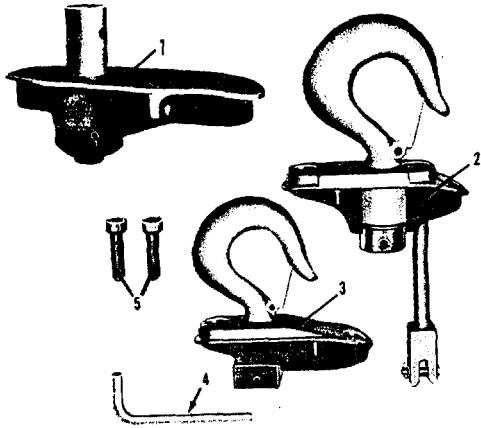

FIGURE 1. SUSPENSION ASSEMBLIES
1. Remove the hook or lug suspension from its carton and the two socket head cap screws plus the socket screw key from the bag, see Figure 1.